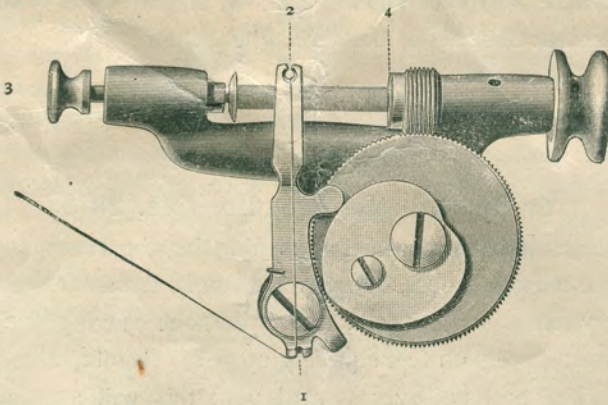
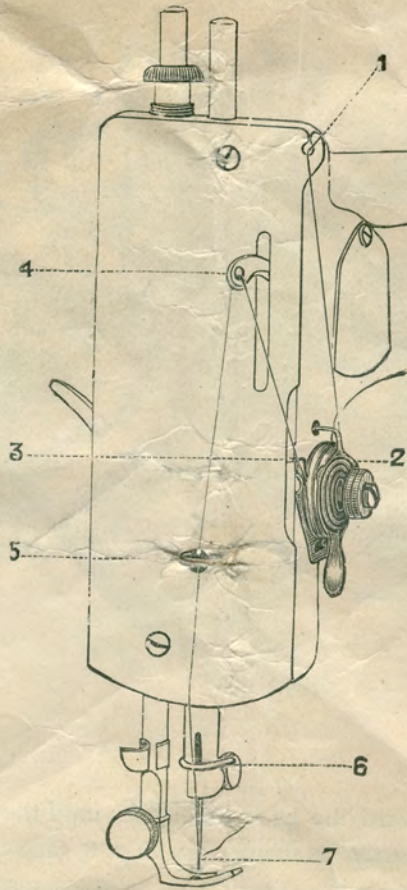

Fig. 5.
Fig. 9.
See Figs. 5 and 9.
Move the bobbin winder up until the rubber ring on its spindle touches the balance wheel; turn the large screw called the stop motion, which is outside the centre of the balance wheel, over toward you as far as it will go; the wheel will then turn loosely, without moving the stitching mechanism; place the spool of under thread upon the spool pin on the arm, and lead the thread into the eyelet (1) Fig. 9, on the face plate, then to the lower eyelet in the bobbin winder thread guide (1) Fig. 5, and into the upper eyelet (2) in the same piece; draw the left hand center (3) of the bobbin winder to the left and place the bobbin between the cup (4) at the right and the center hole at the left, at the same time placing the end of the thread between the cup and the end of the bobbin; now turn the balance wheel as in sewing and the bobbin will be wound regularly and automatically; take the filled bobbin out of the bobbin winder, and turn the Stop Motion over from you to clamp the balance wheel.
(See Fig. 9.)